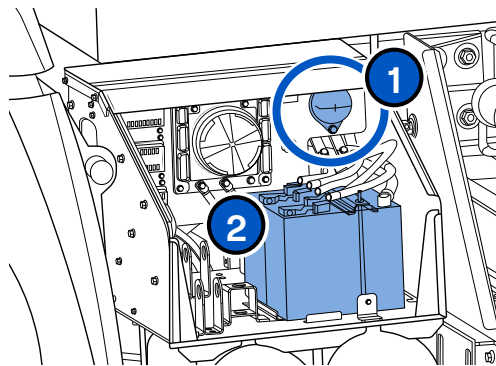

Figure 11 – Battery disconnect switch
2. Turn off the battery disconnect switch to shut off the low-voltage power supply (**Figure 11 no. 1**).
3. Double cut the low-voltage battery cable located in the accessories compartment (**Figure 11 no. 2**).